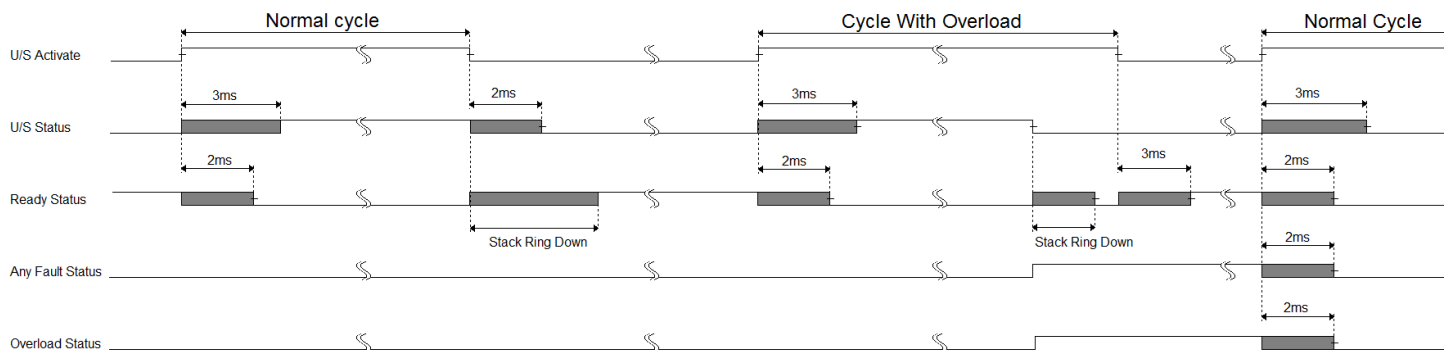

Figure 1: iQ Auto Plus Weld cycle (Weld-by-Automation)
**The Ready Status Output:** The Ready Status output is used to determine if the generator is ready to start a new weld cycle. As seen in Figure 1 a minimum of 4.8ms is required for the Ready Status output to change state after the U/S Activate input is activated or deactivated. For correct operation, a PLC controlling a iQ Auto Plus generator must delay at least 4.8ms after activating or deactivating the U/S Activate input before checking the Ready Status output. After Ultrasound is turned off the stack will continue to vibrate (“Ring Down”) for some time that is stack and application dependent. The Ready Status output will not become active until this Ring Down completes. It is possible that this will make the delay between deactivating the U/S Status input and activation of the Ready Status output much longer.
**The U/S Status Output:** The U/S Status output is used to determine when the generator has activated its ultrasound output to the ultrasonic stack. As seen in Figure 1, the U/S Status output requires a minimum of 6.6ms to change to its activated state. For correct operation, a PLC controlling a iQ Auto Plus Automation generator must delay at least 6.6ms after activating the U/S Activate input before checking the U/S Status output. At the end of a normal cycle, the U/S Status output requires a minimum of 6.6ms to change to its deactivated state after the U/S Activate input has deactivated. For correct operation, a PLC controlling a iQ Auto Plus Automation generator must delay at least 6.6ms after deactivating the U/S Activate input before checking the U/S Status output.